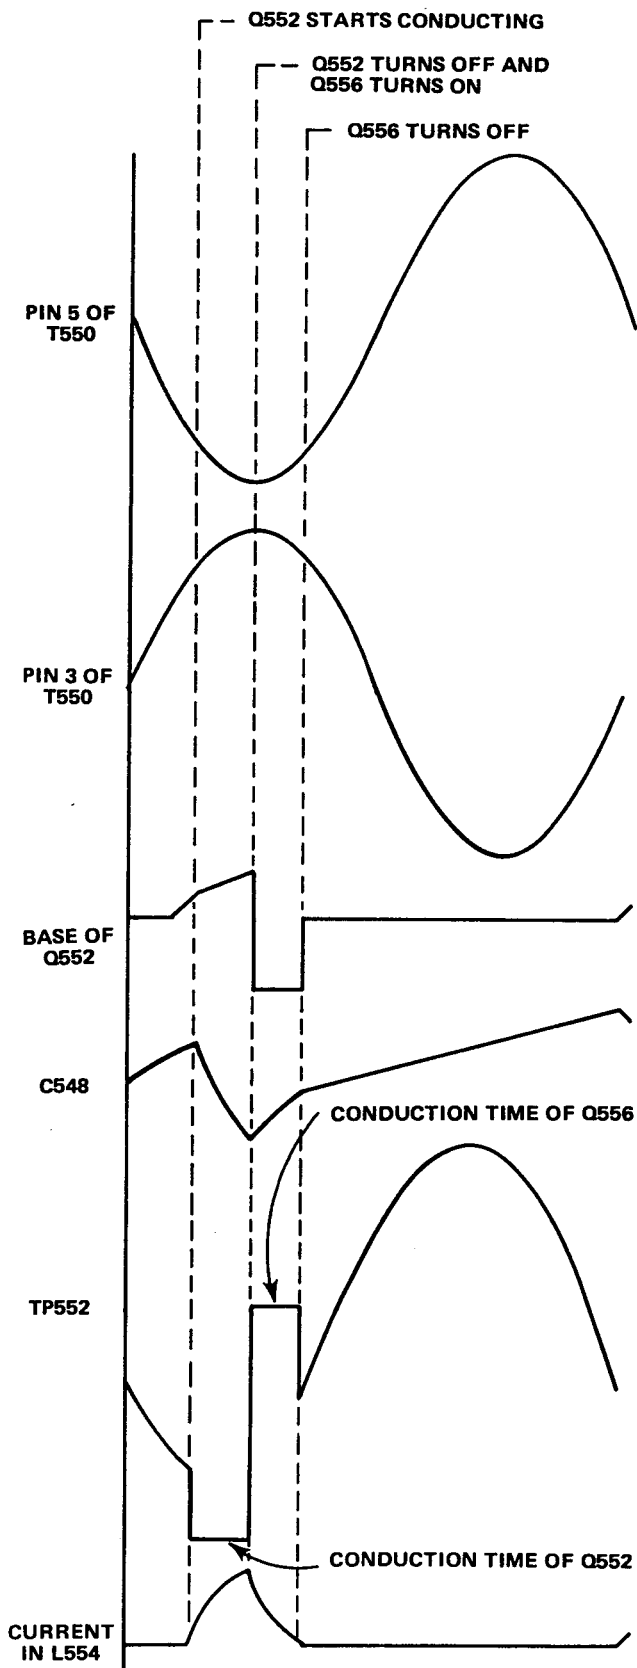

Figure 4-13. Waveforms produced in the high voltage oscillator
**(a) High Voltage Oscillator.** The high voltage oscillator consists of Q552, Q556, T550 and associated circuitry. Figure 4-13 shows the waveforms produced in the high voltage oscillator.
2 As the  $-2$  kV supply goes more negative it pulls the base of Q554 less positive. The collector of Q544 goes more positive which decreases the collector current of Q548. Transistor Q548 supplies charge current to C548. Because the collector current of Q548 is decreased, C548 charges more slowly. As a result, the voltage on pin 3 of T550 will not become positive enough to turn on Q552 until later in the oscillation cycle (see Figure 4-13). Therefore less energy is stored in L554 and transferred to the primary of T550 when Q556 turns on. This decreases the amount of energy transferred to the secondary of T550 which causes the  $-2$  kV supply to go less negative.